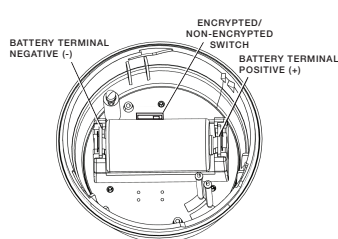

Figure 3 Installing New Battery
The detector is capable of transmitting signals in encrypted mode or non-encrypted mode. The mode is set through a switch inside the detector (see Figure 3). By default, the factory setting is non-Encrypted mode. To change to Encrypted mode:
- 2 Locate the dip switch (see Figure 3) and note the switch setting: ON indicates encrypted, and 1 is non-encrypted mode.